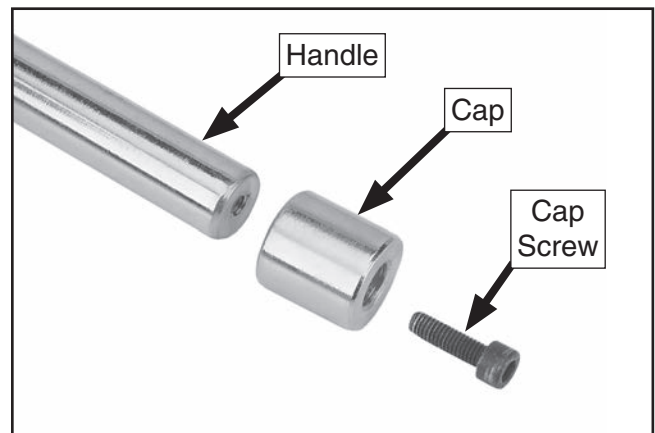

Figure 6. Handle cap removed.
1. Remove cap at one end of sliding handle assembly (see **Figure 6**).